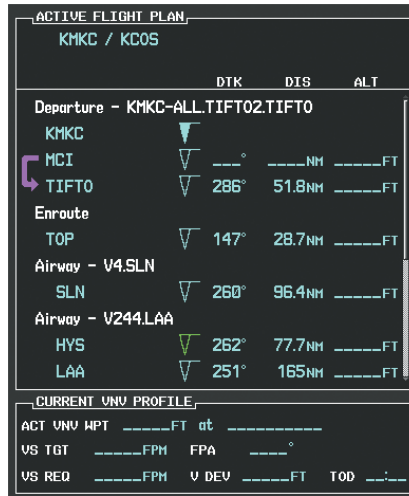

Figure 5-121 V4 is Loaded in the Flight Plan
l) V4 is now loaded into the flight plan as shown in Figure 5-121.